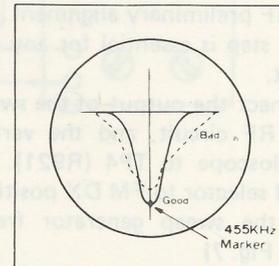

Fig. 2
- (c) Adjust the output level of the sweep generator so that the wave form as shown on Fig. 2 will be observed on the scope, however, keep the generator output as low as possible to avoid clipping or saturation.